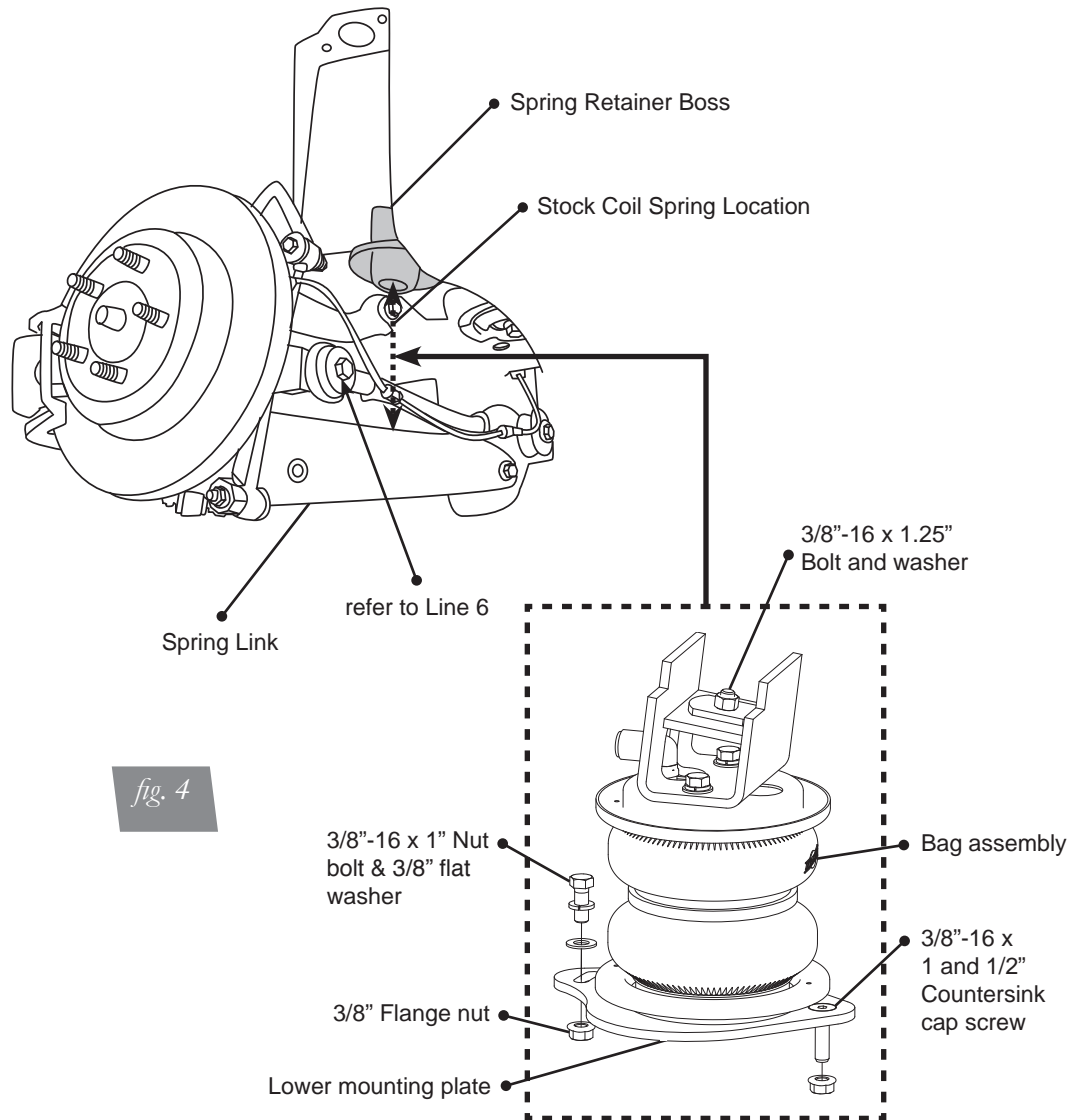

fig. 4
3. Insert and snug nut and bolts into existing holes required for lower spring link (fig. 4).